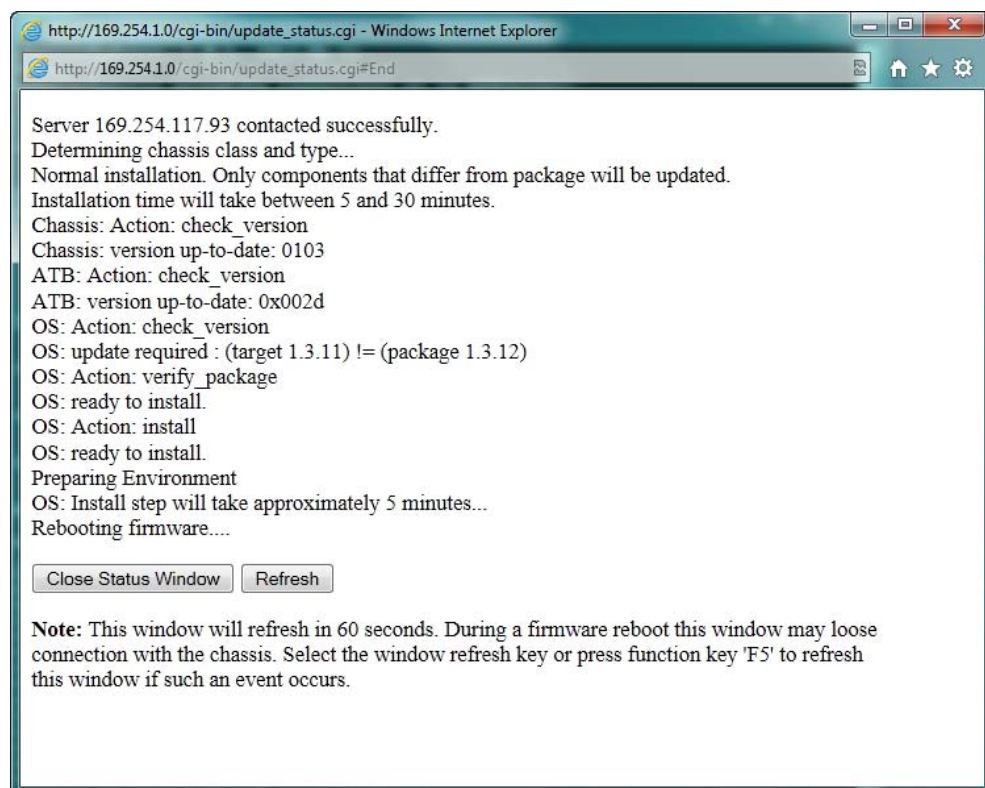

Figure 11 AXIe Chassis Firmware Update Progress Monitor (final screen shown)
- f. The installer opens a Status Update window (Figure 11) allowing you to monitor progress. This screen updates periodically indicating progress.